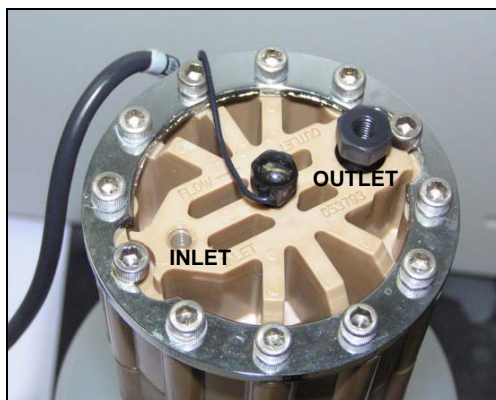

Figure 60. EluGen Cartridge Fitting Plugs
6. Orient the EluGen cartridge with the fittings facing up and remove the plugs from the cartridge **INLET** and **OUTLET** fittings (see Figure 60).